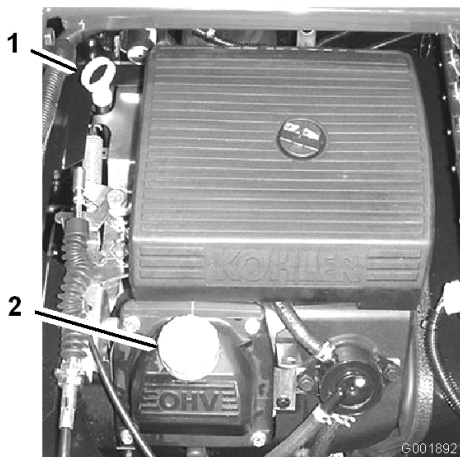

Figure 44
2. Remove the dipstick and wipe it with a clean rag (Figure 44). Insert the dipstick into the tube and make sure it is seated fully. Remove the dipstick and check the oil level.
3. If the oil level is low, remove the filler cap from the valve cover (Figure 44) and pour oil into the opening until the oil level is up to the Full mark on the dipstick. Add the oil slowly and check the level often during this process. Do not overfill.
8. Slowly pour approximately 80% of the specified amount of oil into the oil filler tube (Figure 44).